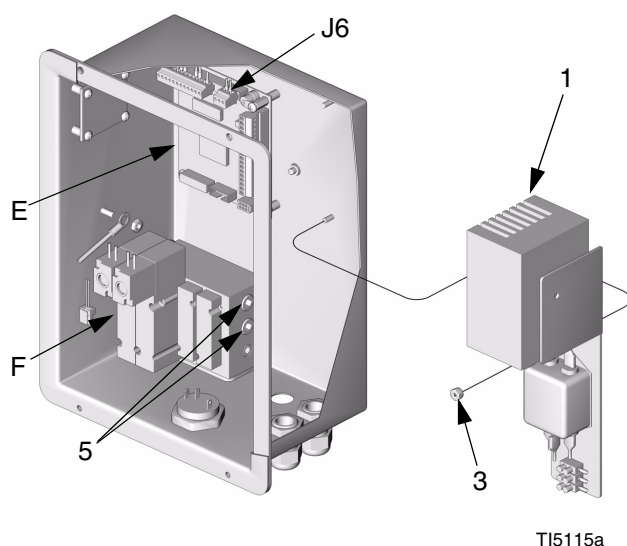

FIG. 4
7. Remove top nut and loosen bottom nut. Slide alternator (K) up and off bottom nut.
8. To remove solenoid module (F), remove two screws from back of control box. Disconnect air supply line to solenoid module. Remove the module only enough to remove the air regulator (L) and attached parts from the middle port of the solenoid module. Also remove the elbow from the top port of the module.
9. Install two plugs (5) in the top and middle ports of the solenoid module (F). Reinstall the solenoid module in the control box. See FIG. 4.